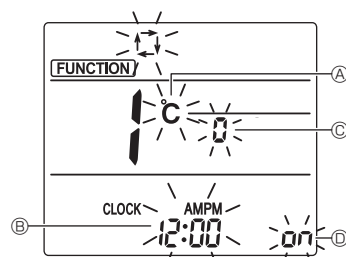

Fig. 6-11
3. Check that function No. "1" is displayed, and then press the **SET** button ③. The display setting screen will be displayed. (Fig. 6-11)